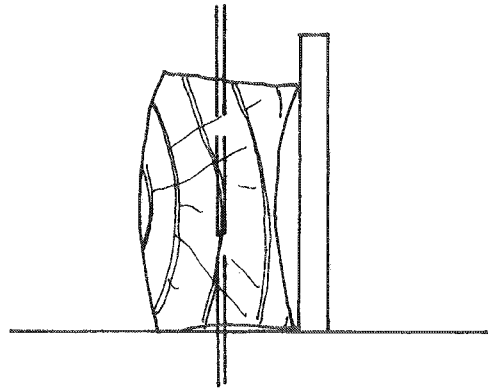

Fig. 1.22 Deep cutting.
- (b) When deep cutting, keep the hollow or cupped side against the fence. This will provide stability as the two points locate on to the fence (**Fig. 1.22**).